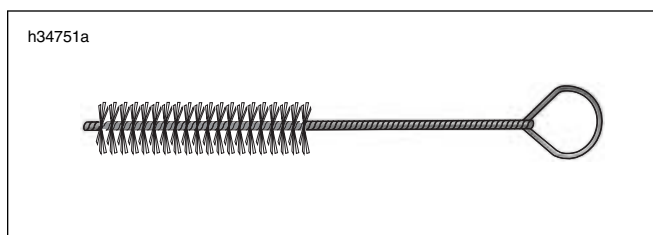

Figure 3-19. Valve Guide Brush (Part No. HD-34751)
7. See Figure 3-19. Clean valve guide bore with the VALVE GUIDE CLEANING BRUSH (HD-34751).